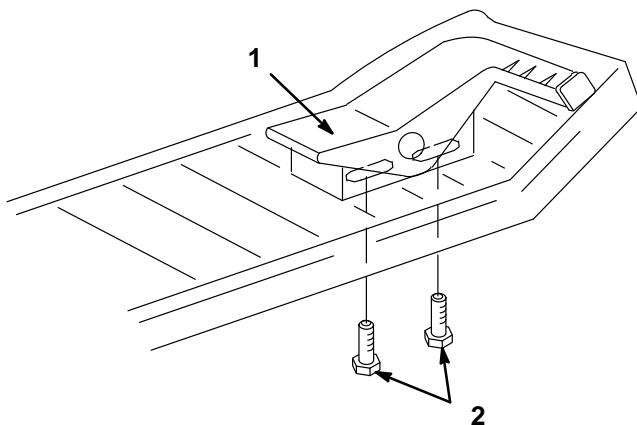

Figure 9
2. Loosen the capscrews below the right footrest. Slide the pedal in the slots away from the direction that made contact with the footrest (Fig. 9).